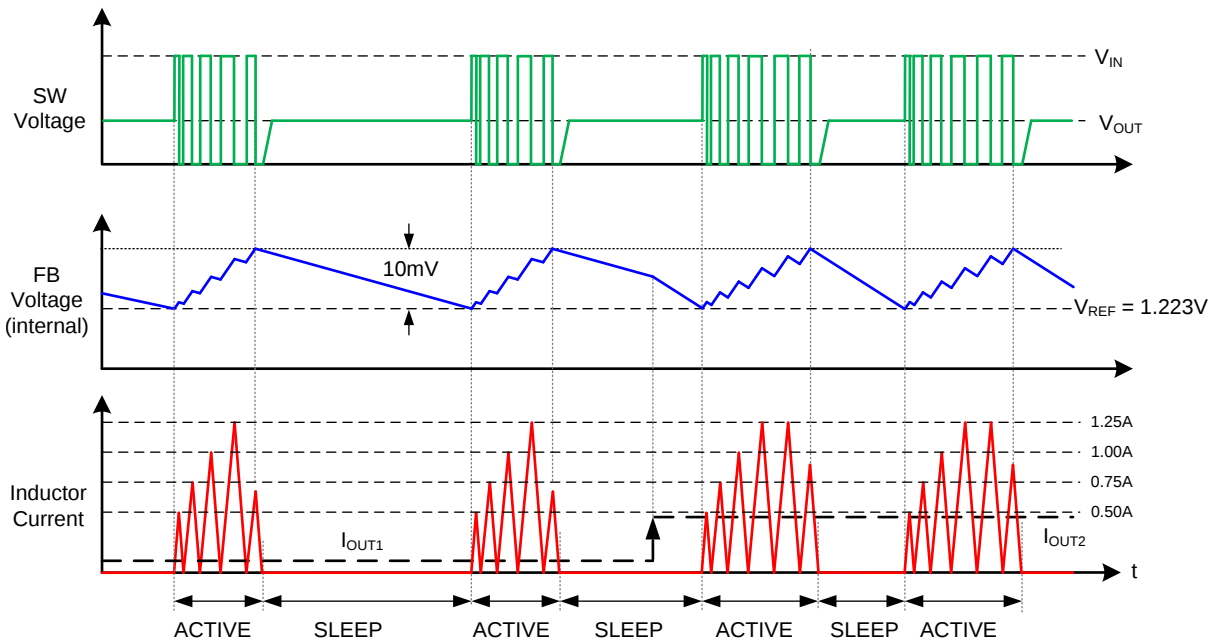

FIG 42. PFM Mode With Modulated I_{LIM} , Output Voltage and Inductor Current Representative Waveforms
One of the supported ILIM settings enables a function that modulates the peak current threshold levels during the first three switching cycles of each active period as illustrated in Figure 42. This function improves efficiency under most application conditions at the expense of slightly degraded load transient response.
- (1) For this current limit threshold selection, the ILIM pin may also be left open instead of using a 100-k Ω or greater resistor.
- (2) This I_{LIM} setting enables a function that modulates the I_{LIM} levels during the first three switching cycles as illustrated in 図 42.